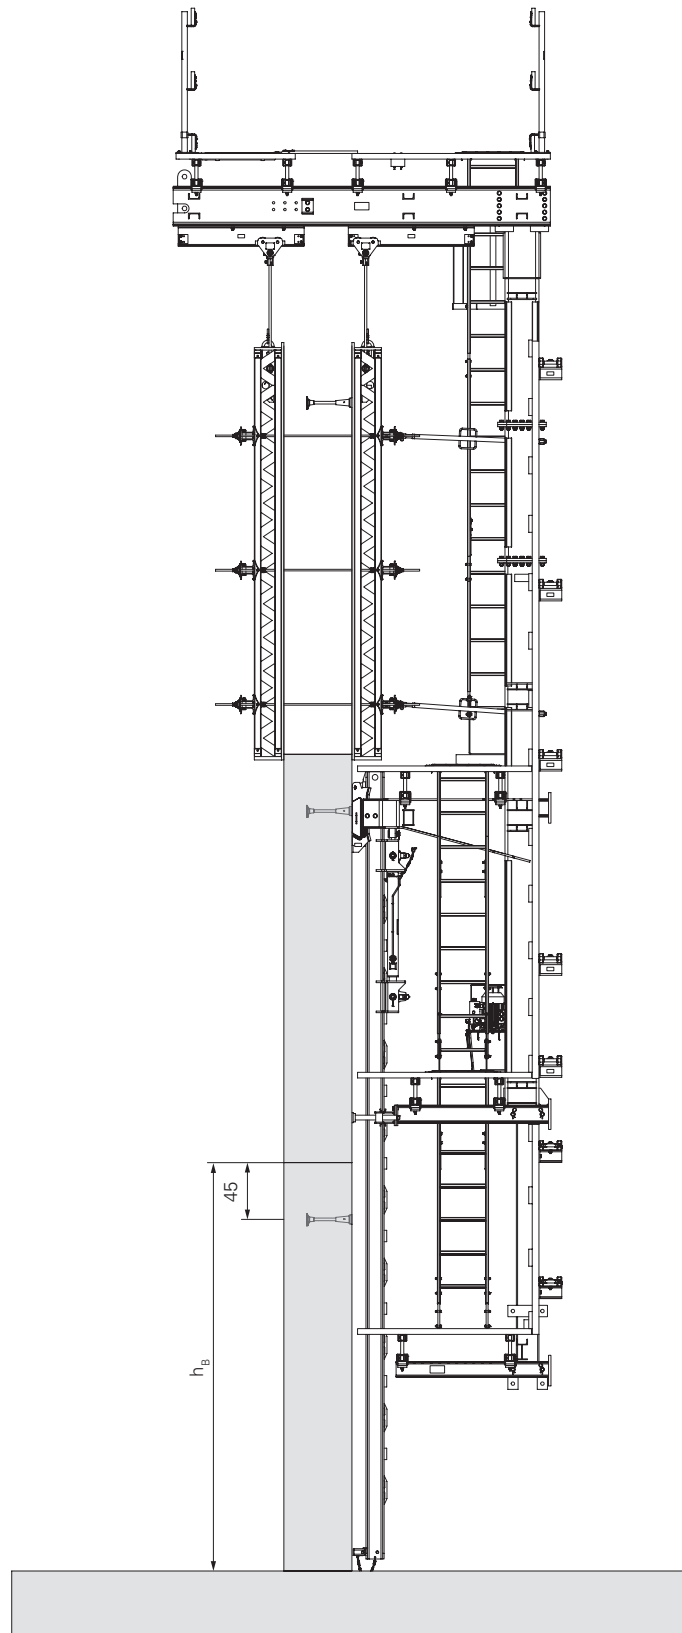

Fig. A1.02
- Concreting height (h_B) = 3.6 m. (Fig. A1.02)